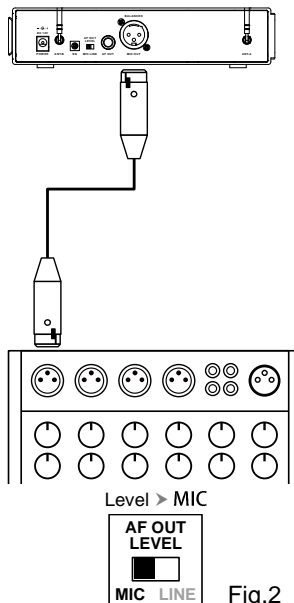

Fig.2
- Balanced output:** XLR connector provides balanced audio output signal from this jack to the mixer/amplifier. Use an audio output cable with "XLR" or "Cannon" connector, connect one end to the balanced output jack of the receiver, and the other end to the "MIC IN" jack of the mixer/ amplifier (Fig.2).